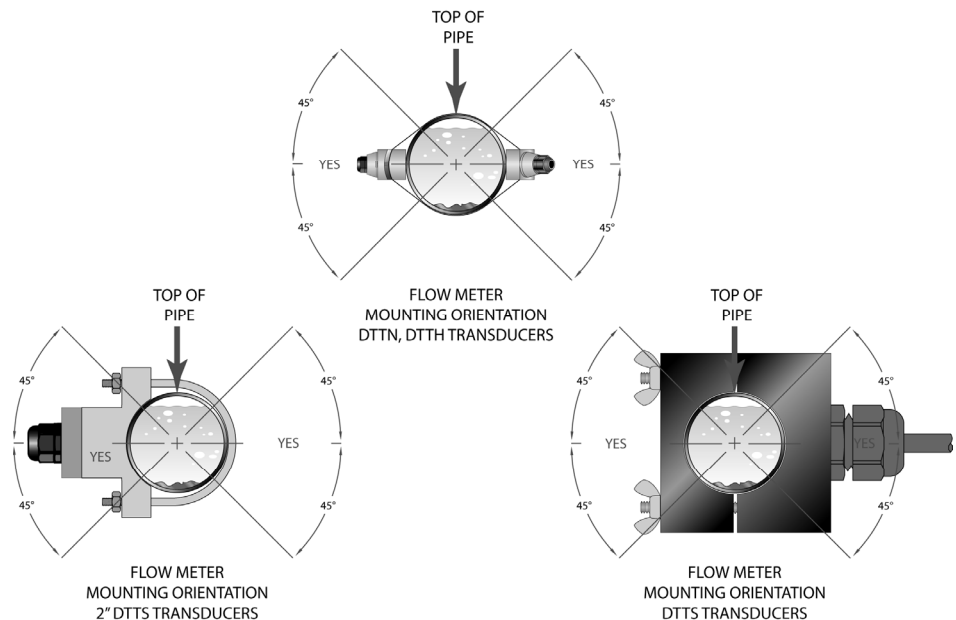

Figure 2.1
The DTTN and DTTH transducers need to be properly oriented on the pipe to provide optimum reliability and performance. On horizontal pipes, the transducers should be mounted 180 radial degrees from one another and at least 45 degrees from the top-dead-center and bottom-dead-center of the pipe. See **Figure 2.1**. **Figure 2.1** does not apply to vertically oriented pipes.
3. Crease the paper at the fold line. Mark the crease. Place a mark on the pipe where one of the transducers will be located. See **Figure 2.1** on page 2.8 for acceptable radial orientations. Wrap the template back around the pipe, placing the beginning of the paper and one corner in the location of the mark. Move to the other side of the pipe and mark the pipe at the ends of the crease. Measure from the end of the crease (directly across the